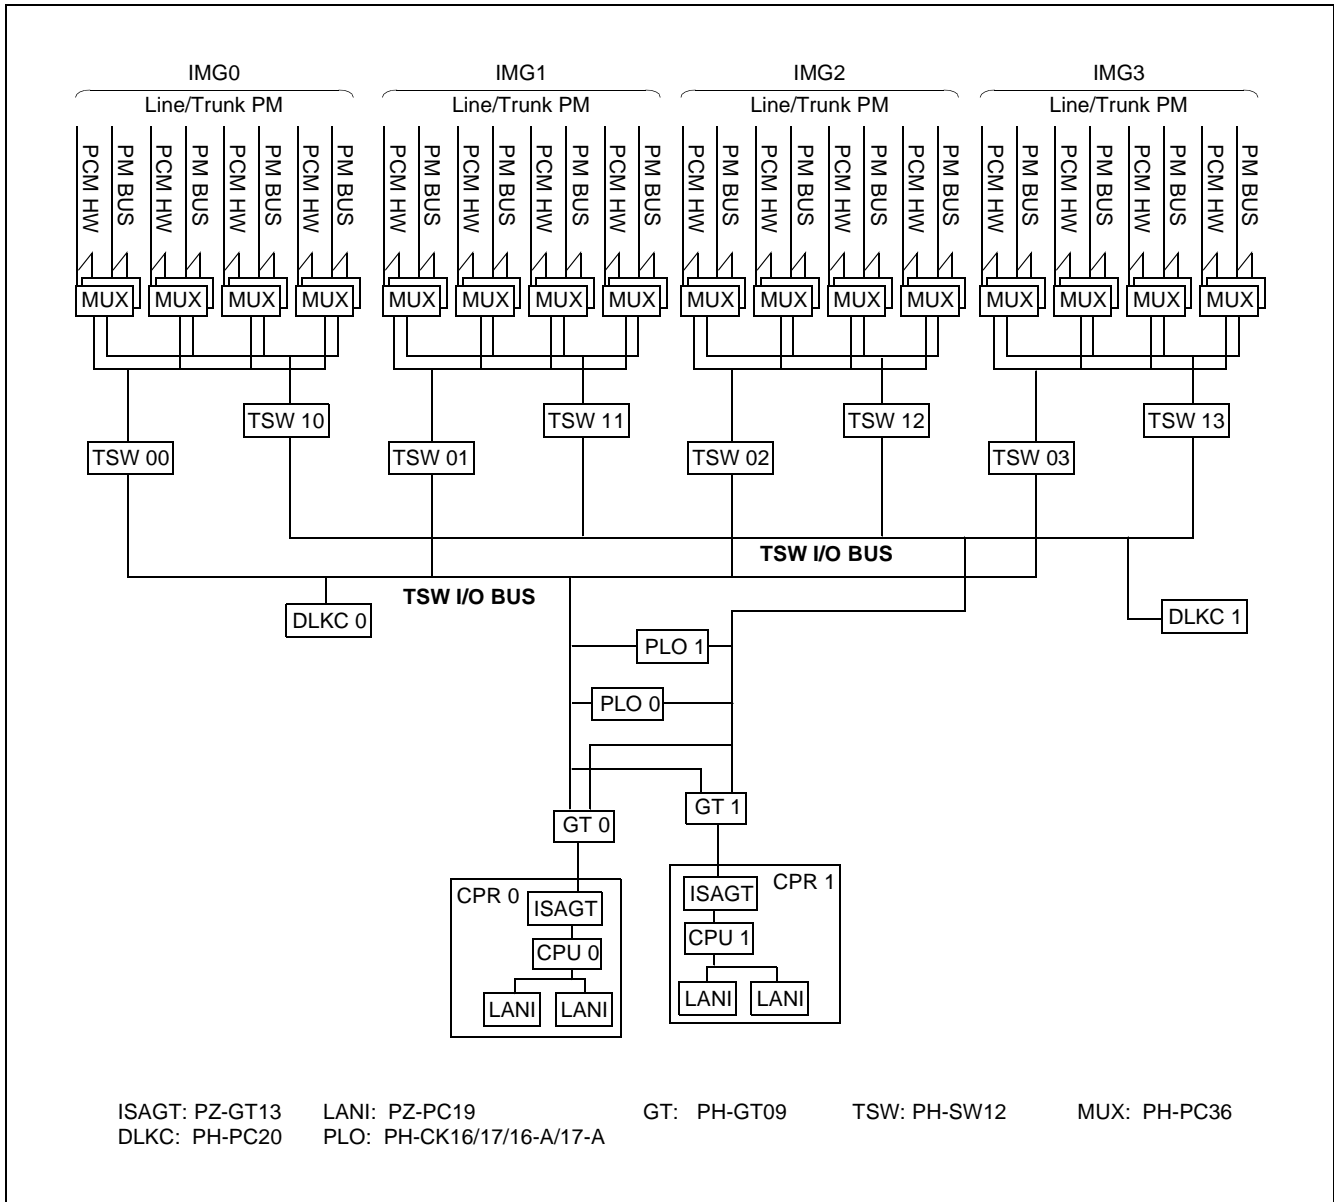

Figure 6-48 System Block Diagram (Switching Network for Speech Path System)
- Note 1:** *As explained in this section, the ACT/STBY of the Speech Path System can be changed over via the MBR key on the GT (PH-GT09) card. Because each GT (GT0 and GT1) can control both the Speech Path System #0 and #1, perform the key operation on the active GT card, not on the card in STBY mode. Refer to Figure 6-48.*
- Note 2:** *Figure 6-48 shows a system block diagram centering upon the GT and its controlling Speech Path System. By changing over the ACT/STBY of Speech Path System, all the related systems, such as TDSW/INT, DLKC, and MUX, are totally switched over. The changeover can be executed by a key operation on the active GT card. If the MBR key is flipped on the active GT card, all the Speech Path-related systems (TSW/INT, DLKC, and MUX) in the same switching block are totally changed over. However, the ACT/STBY of GT and PLO is not affected.*